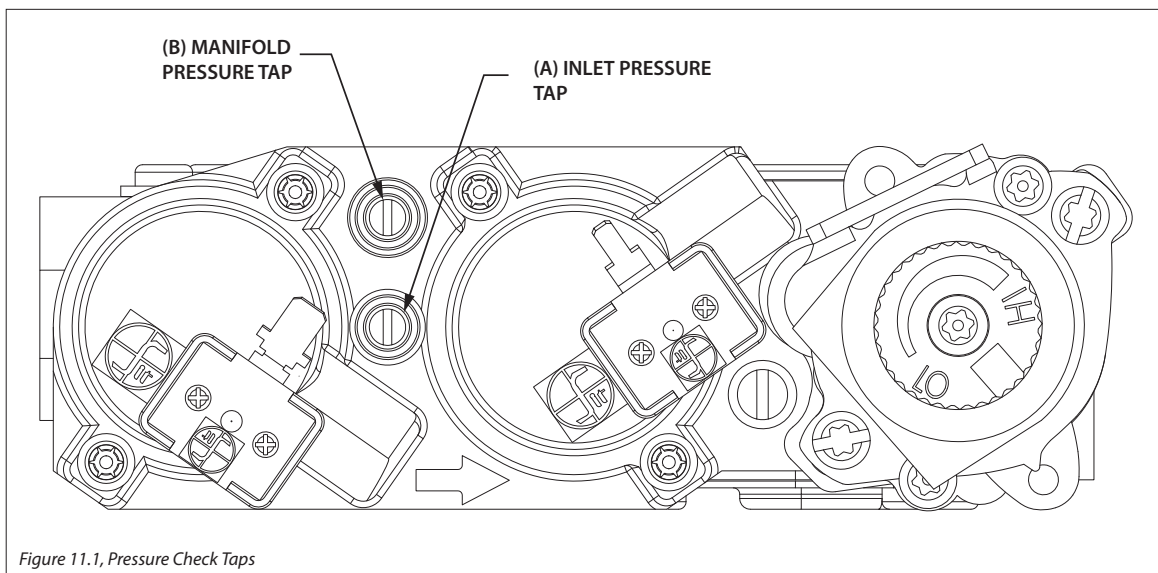

Figure 11.1, Pressure Check Taps
1. Loosen the inlet (IN) pressure tap by turning screw counter-clockwise. See (A) in Figure 11.1.
3. Set IPI/CPI rocker switch to CPI (ON).
7. Disconnect hose and tighten the inlet (IN) pressure tap by
2. Loosen manifold (OUT) pressure tap by turning screw counter-clockwise. See (B) in Figure 11.1.
4. Set IPI/CPI rocker switch to CPI (ON).
8. Attach the manometer to the manifold pressure tap (B) to verify it is completely sealed. The manometer should read no pressure when pilot and burner are on.